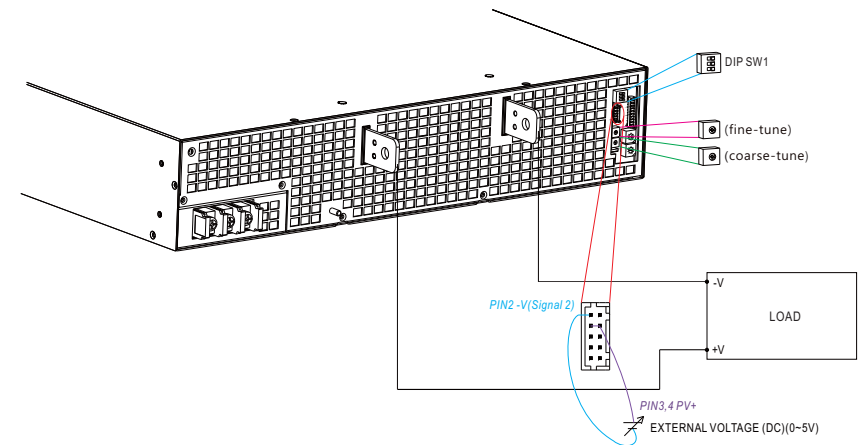

Figure 5-2
B.Connect the output of an external DC source to PV+ and -V(signal), as shown in Figure 5-2.